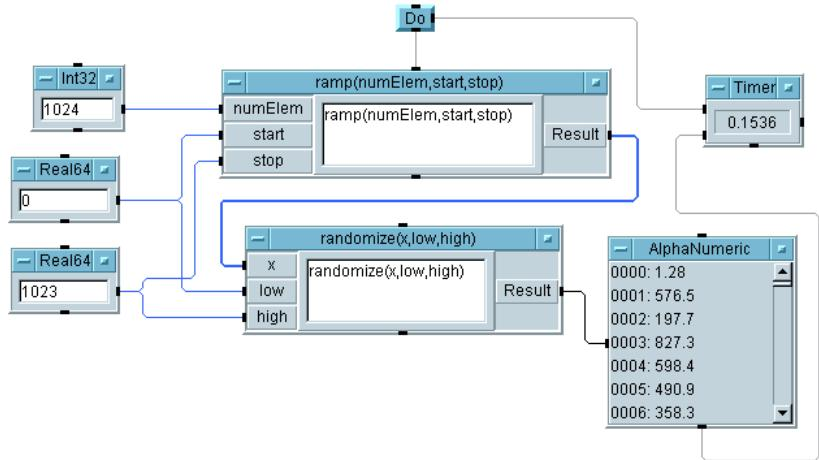
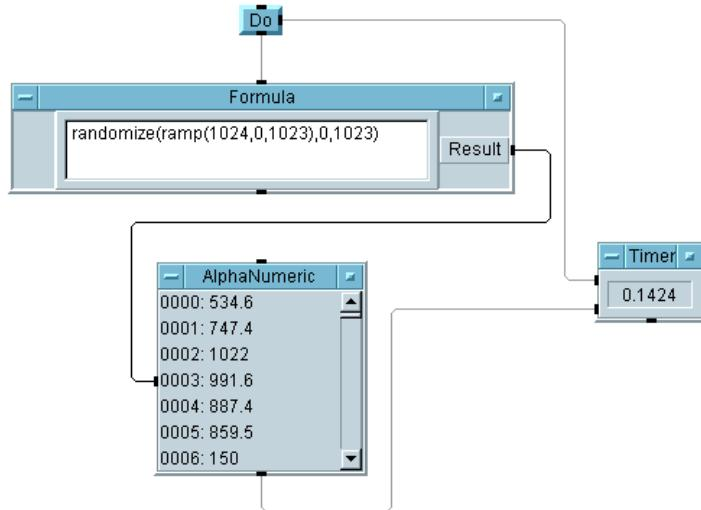

Figure 11-4. Function Calls without Optimization
Figure 11-5. Function Calls with Optimization
2. Nest function calls within other function parameter lists. For instance, in Figure 11-4, the function **randomize** uses the array generated by the function **ramp**. In Figure 11-5, the function call to **ramp** is nested in the call to **randomize**, resulting in slightly faster program execution.